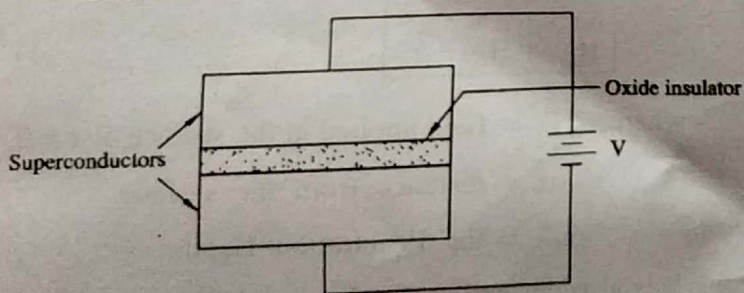

FIG. 5.8 : JOSEPHSON EFFECT
- When a DC voltage is applied to contact points of superconductors (Fig. 5.8) electrons will flow from one superconductor to another through oxide insulator. This phenomenon is known as "Josephson Effect".